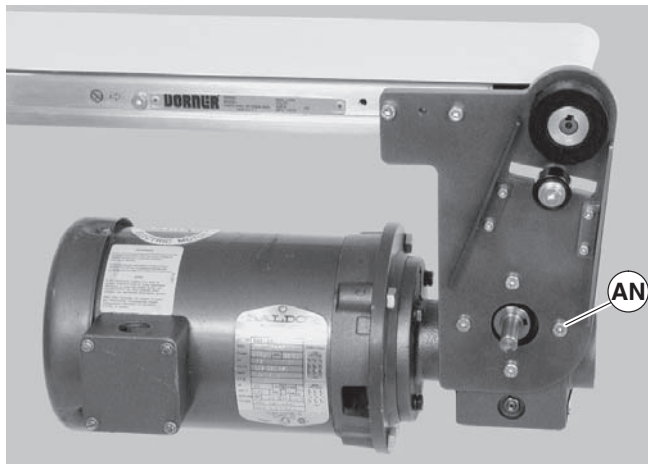

Figure 27
7. Remove four (4) gear reducer mounting screws (Figure 27, item AN). Remove gearmotor.